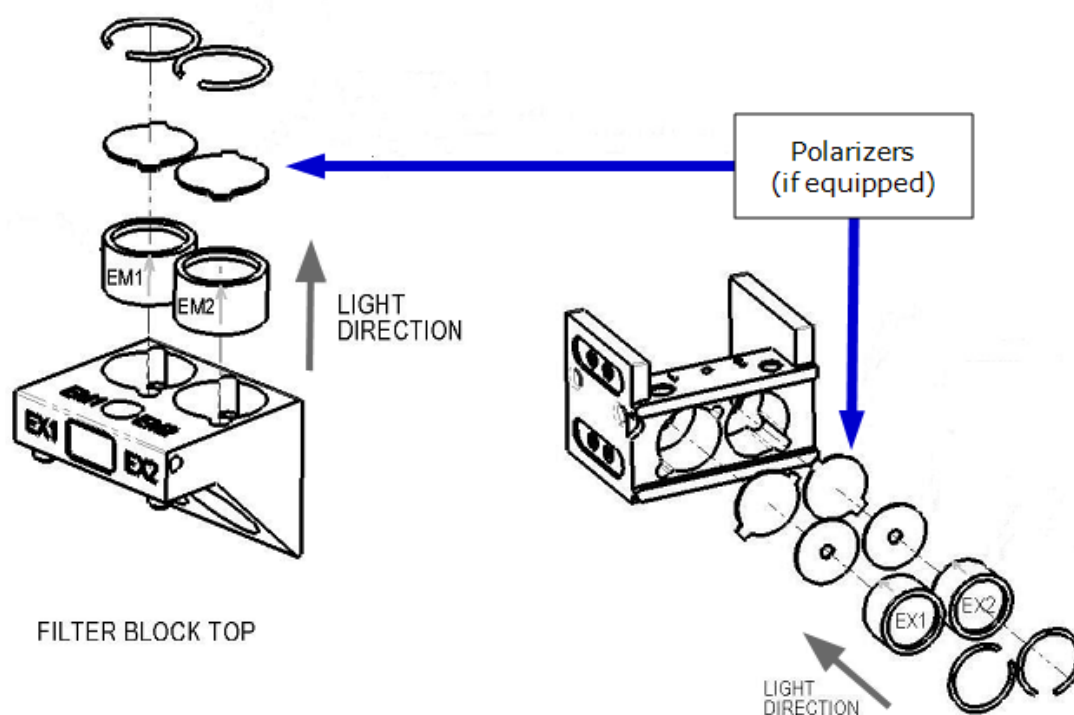
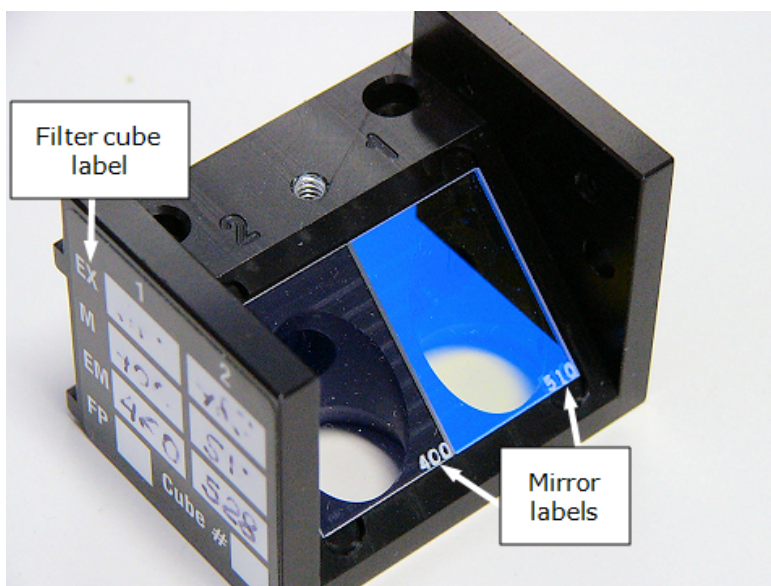

Figure 4-2: Proper orientation of the EX (left) and EM (right) filters in the filter cube
Figure 4-3: Two half-size mirrors positioned in the filter cube, with their labels in the lower-right corners
Filters are not specific to either excitation or emission. *Filter direction* within the filter cube is important, and as illustrated in Figure 4-2, the direction differs depending on the filter's placement in the cube (EX or EM). Each filter has its central wavelength and bandpass values printed on its side, with an arrow to indicate the proper direction of light through the filter.
*Mirror direction* is also important. The mirror label should be in the lower-right corner of the mirror and readable (see Figure 4-3 on the next page). If the mirror is positioned incorrectly, your measurement data may be inaccurate.
1. Ensure that all filters, plugs, and mirrors are inserted properly in the filter cube (see Figure 4-2 and Figure 4-3).
- a. Make note of the mirror placement and label orientation (refer to Figure 4-3 on page 46).
- a. Orient the filter as shown in Figure 4-2 on page 45, observing the arrow on its side which indicates the light direction. Drop the filter or plug into the desired location.
2. To replace a mirror, hold the mirror by its edges, turn it so that its label is face-up and readable (see Figure 4-3 on page 46), and place it on the shelf in the filter cube.